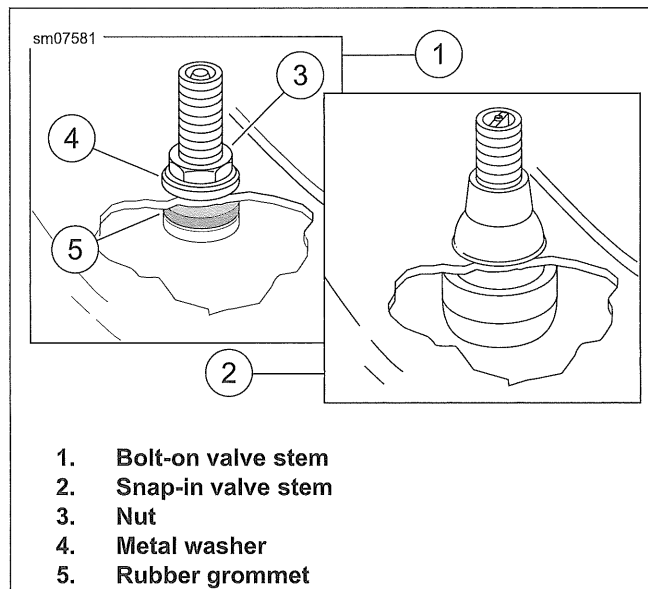

Figure 3-27. Tubeless Tire Valve Stems
1. See Figure 3-27. Metal valve stem.
- a. Install rubber grommet (5) on valve stem.
- c. Install metal washer (4) and nut (3). Tighten.